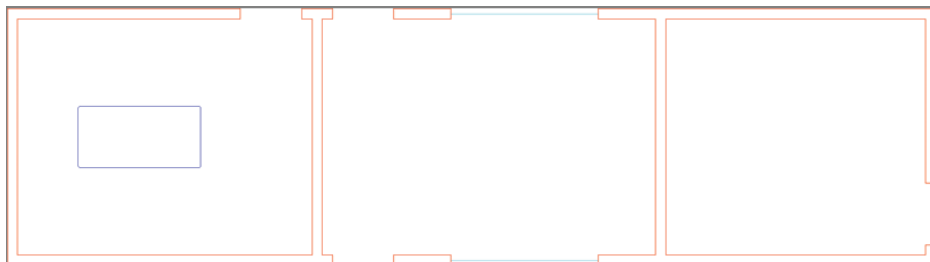

FIGURE 7.1 Three rooms
1. Go to the book's web page at www.sybex.com/go/autocad2014_essentials, browse to Chapter 7, get the file Ch7-A.dwg (or Ch7-A-metric.dwg), and open it (see Figure 7.1).